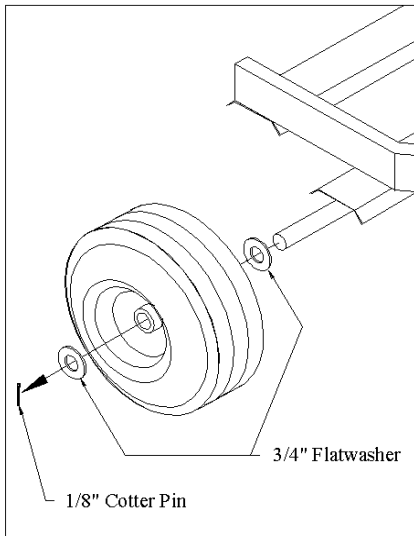

Fig. 1
1. Slip wheel (9) over container frame (2) axle pin, trapping 3/4" flatwasher on both sides of wheel. Secure with 1/8" x 1" cotter key. Repeat procedure with opposite wheel. Fig 1